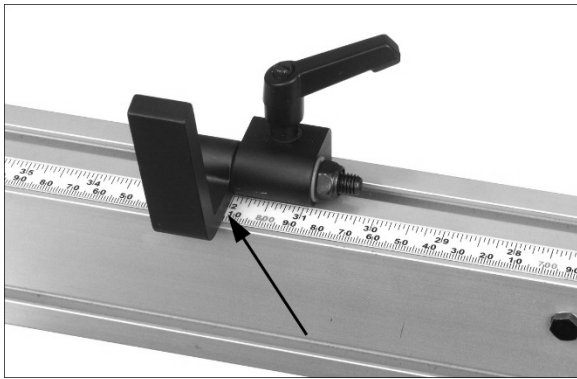

Figure 8-13
5. Raise flip stop (Figure 8-13) and slide it to desired dimension on scale. Tighten handle and lower flip stop. Place a scrap board against flip stop, and make a test cut. Measure the cut to verify scale accuracy, and make any further adjustments if needed.